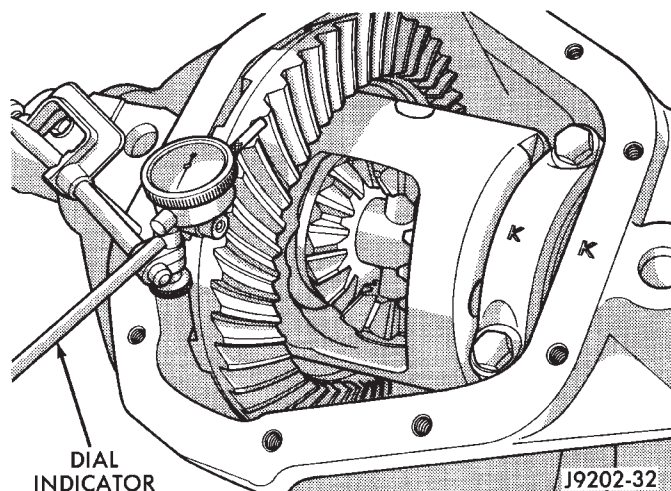

Fig. 73 Ring Gear Backlash Measurement
(26) Subtract 0.002 in. (0.05 mm) from the dial indicator reading to compensate for backlash between ring and pinion gears. This total is the thickness shim required to achieve proper backlash.
(27) Subtract the backlash shim thickness from the total preload shim thickness. The remainder is the shim thickness required on the pinion side of the axle housing.
(28) Rotate dial indicator out of the way on guide stud.
(29) Remove differential case and dummy bearings from axle housing.
(30) Install side bearing shims on differential case hubs.
(31) Install new side bearing cones and cups on differential case.
(32) Install spreader W-129-B on axle housing and spread axle opening enough to receive differential case.
(33) Install differential case in axle housing. Refer to Differential Removal and Installation paragraph.
(34) Remove spreader from axle housing.
(35) Rotate the differential case several times to seat the side bearings.
(36) Position the indicator plunger against a ring gear tooth (Fig. 73).
(37) Push and hold ring gear upward while not allowing the pinion gear to rotate.
(38) Zero dial indicator face to pointer.